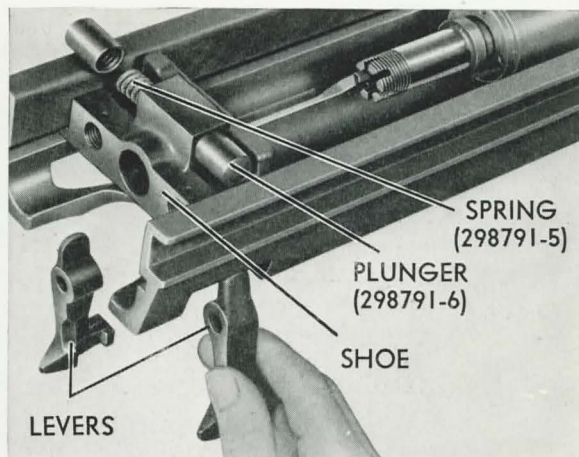

Figure 59
- (1) Slide the shoe back to the large slots, press in and down to remove the levers.
- (2) Remove the plungers, the spring, and the shoe, **Figure 59**.